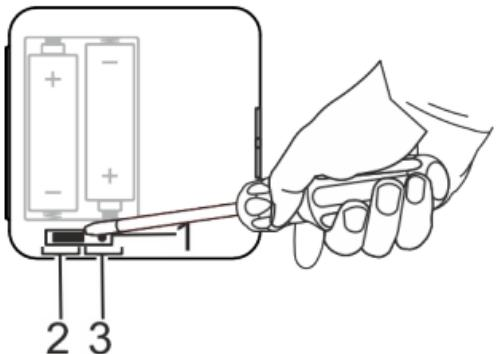

Fig. 7: Lifting up the jumper
2. Lift up the jumper (Fig. 7/1) in the housing cover using a flat-head screwdriver.
3. Insert the jumper (Fig. 7/1) in the PID position (Fig. 7/3).